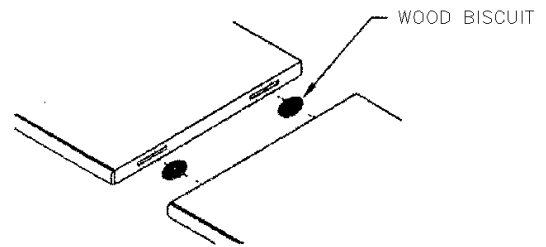

Figure 3-8 JOINING FORMICA
2. Where a split occurs in the Formica writing surface, insert wood biscuits into the slots on the sides of the surfaces. Refer to Figure 3-8.